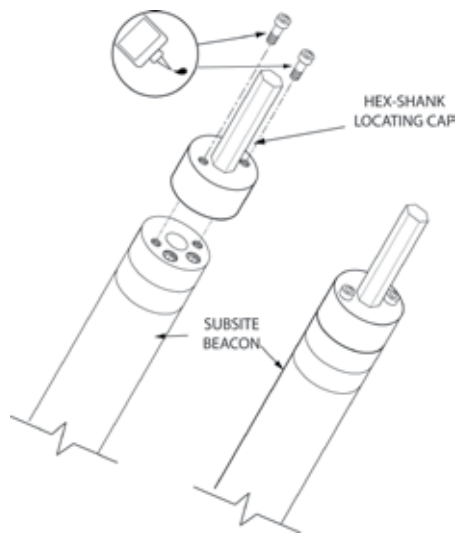

Fig. 28
2. Apply thread lock material on screw threads and install the hex-shank locating cap and two screws as illustrated (see Fig 28). Tighten screws firmly with a hex wrench.